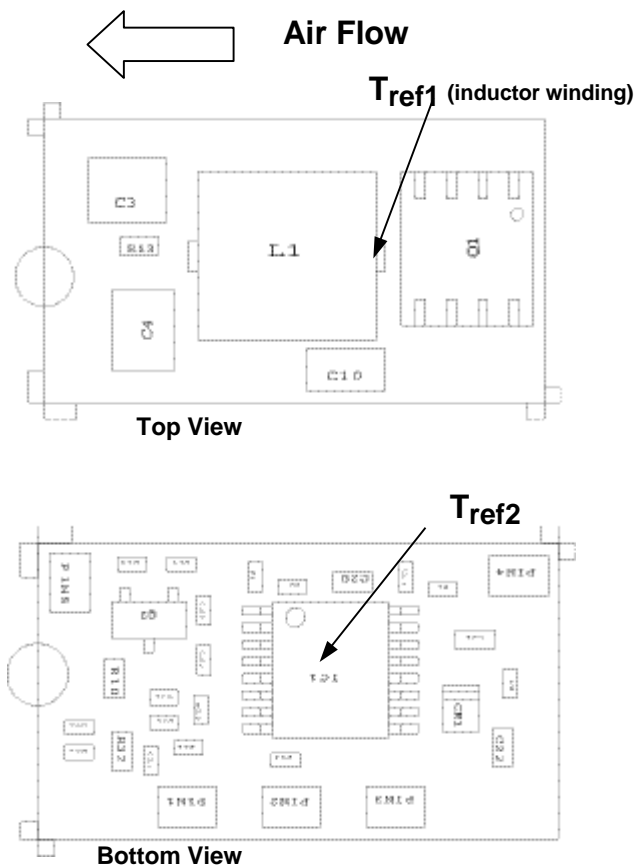
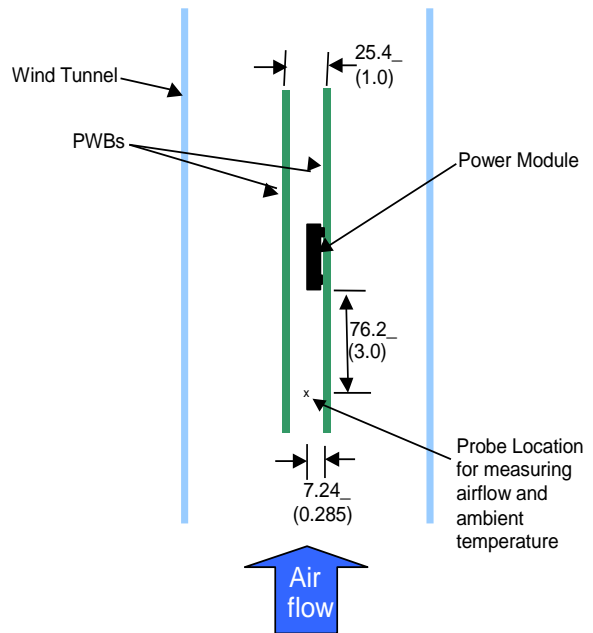

Figure 32. Tref Temperature measurement location.
Figure 33. Thermal Test Set-up.
Considerations include ambient temperature, airflow, module power dissipation, and the need for increased reliability. A reduction in the operating temperature of the module will result in an increase in reliability. The thermal data presented here is based on physical measurements taken in a wind tunnel. The test set-up is shown in Figure 33. Note that the airflow is parallel to the long axis of the module as shown in figure 32. The derating data applies to airflow in either direction of the module’s long axis.
The thermal reference points,  $T_{ref1}$  and  $T_{ref2}$  used in the specifications of thermal derating curves are shown in Figure 32. For reliable operation these temperatures should not exceed 125°C.